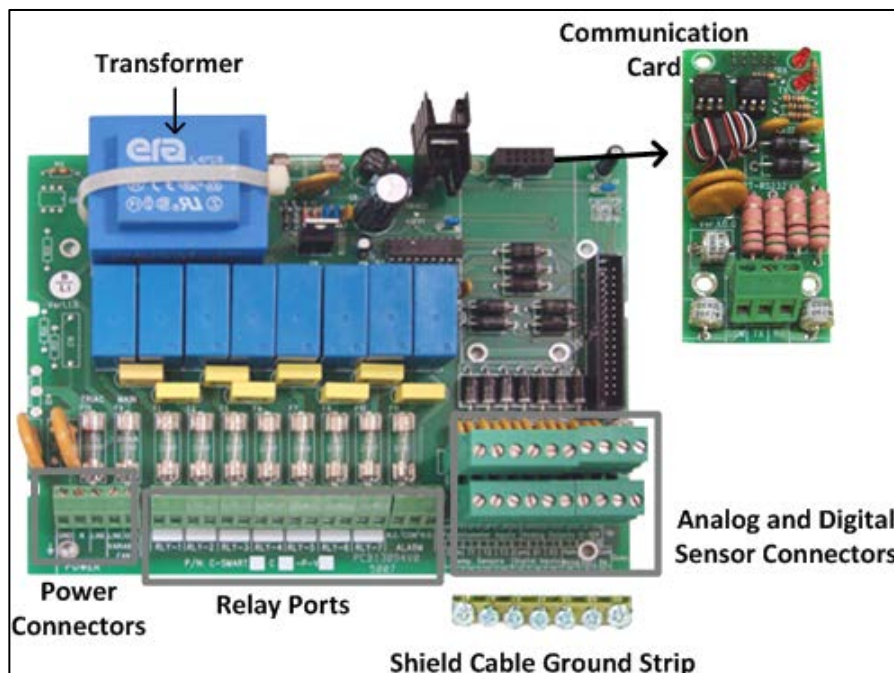

Figure 4: RTDC-8 Board Layout
- Figure 4: RTDC-8 Board Layout